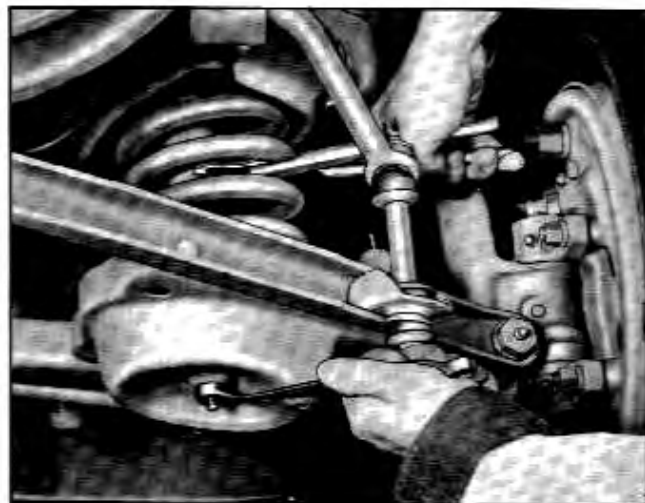

Fig. 3-13 Holding Shock Absorber to Loosen or Tighten Retaining Nuts
2. Loosen and remove two nuts from bottom stud on shock absorber. **NOTE:** Shock absorber must not turn while loosening nuts. If necessary, use water pump pliers inserted through coils of front spring to hold shock absorber reservoir tube from turning (Fig. 3-13). Spring coils can be pried apart with large screw driver or similar tool to provide sufficient space to insert pliers.